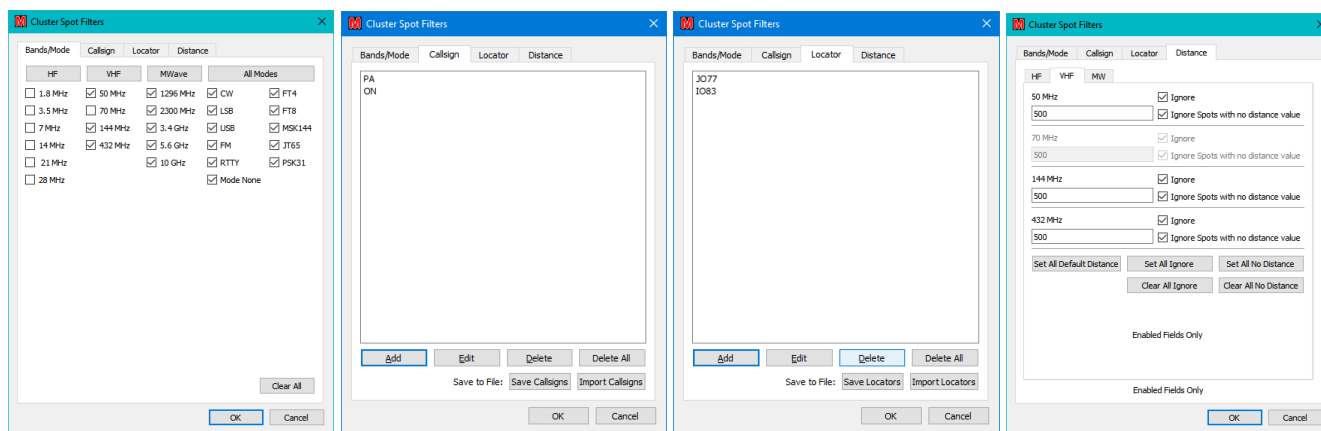

Figure 133 – Setting up filters
The content of the display can be controlled by clicking the **“Filters”** button and adjusting the Band/Mode of interest or the callsigns/locators to be watched and the distance constraints (see Figure 133).
The Distance filters further restrict the spots displayed on the basis of the specified maximum ranges¹²⁶. Note in Figure 133 (4) that the 70MHz box is disabled because 70MHz is not selected in in Figure 133 (1).